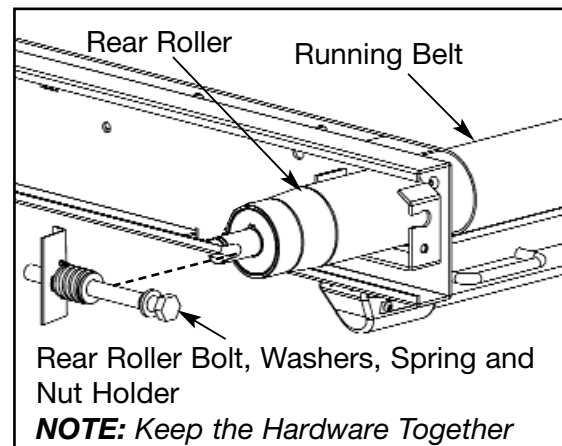

Figure 6
A. Using a 3/4" open end or socket wrench, loosen the two rear roller bolts (one roller bolt on each side). **NOTE:** Loosen each bolt evenly, making sure not to loosen either bolt too many turns before moving to the other bolt. See Figure 6.
B. While holding the rear roller, remove the hardware from each side. **NOTE:** Pivot the bolt, washers, spring and nut holder out together. See Figure 6.
C. Lift one side of the rear roller and slide the roller out of the running belt. See Figure 6.
- A. Slide the rear roller into the running belt. See Figure 6.